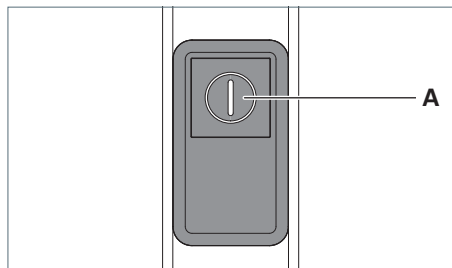

Fig. 25: Control element.
- ▶ Press the key **A** seven times quickly in succession, see Fig. 25.
- ▶ Press the key **A**, see Fig. 25.
- Press the key **A**, see Fig. 25.
- Press the key **A** and keep this key pressed, see Fig. 25.